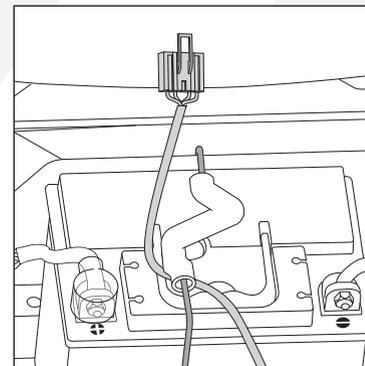
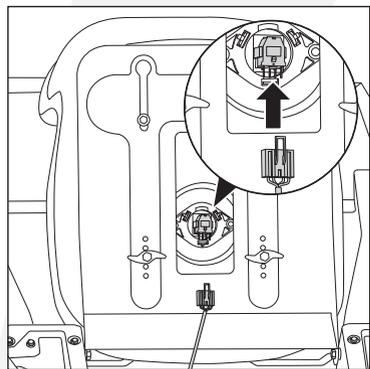

Fig. 2B
Fig. 2C
4. Take hold of the seat switch wiring harness and pass it underneath the battery securing rod. Connect the seat switch wiring harness to the seat switch. (Fig.2B&Fig.2C)